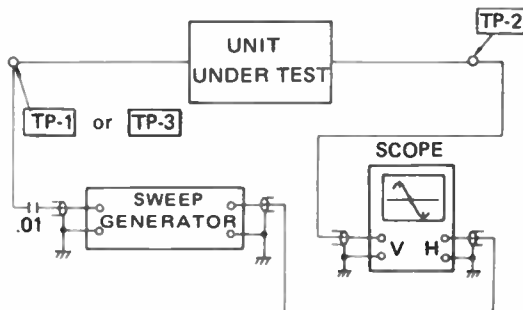

FIGURE 3. IF SECTION ALIGNMENT TEST EQPT. HOOK UP
Step 1: Connect instruments as shown in Figure 3.